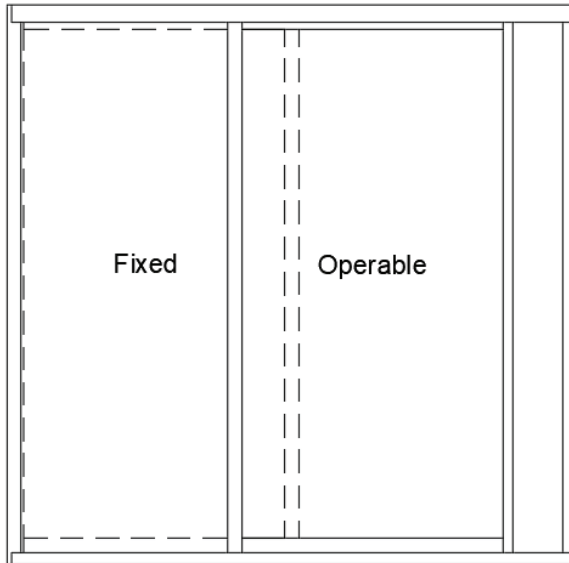
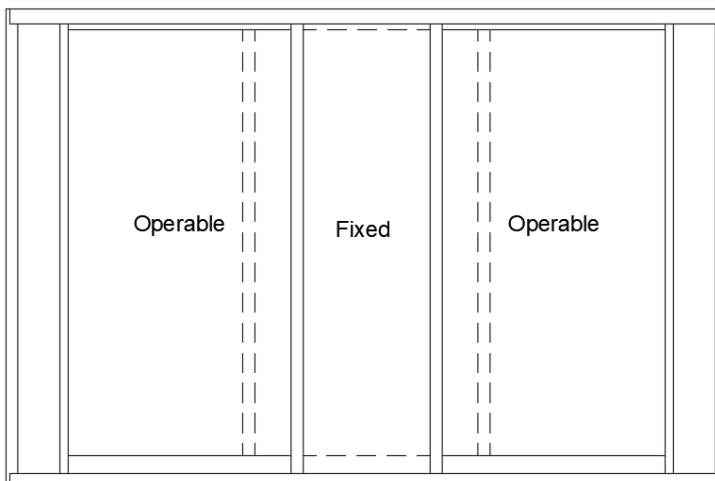

FIGURE 13
FIGURE 14
- c. Install operable panel(s) so that it overlaps the fixed panel interlock(s). See figure 13 for OX or XO and figure 14 for XOX viewed from the interior.